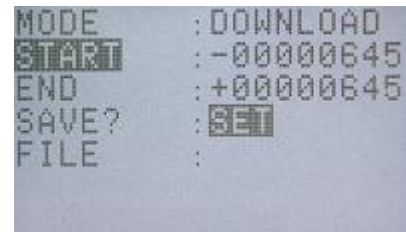

Figure 2-35 Transmit Mode Screen
- 5) Once savein is complete, "COMPLETE" will be shown, as in Figure 2-35. "SET" will be flashing again so press J-PAD3 SET  to finish saving the images.